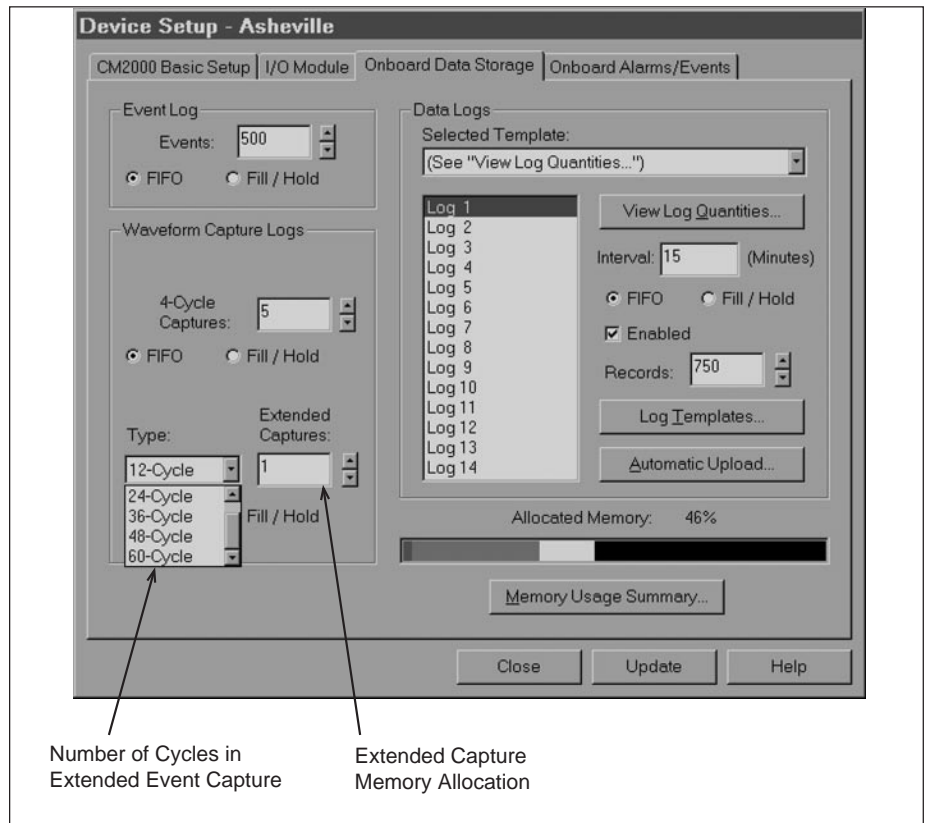

Figure 7-3: POWERLOGIC System Manager SMS-3000 Onboard Data Storage dialog box
1. In the Onboard Data Storage screen (figure 7-3), select the number of cycles for extended capture from the pull-down menu.